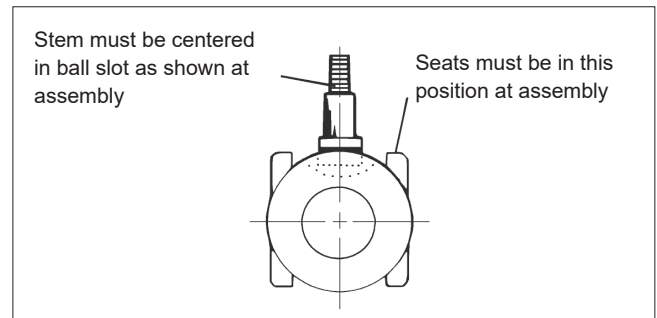
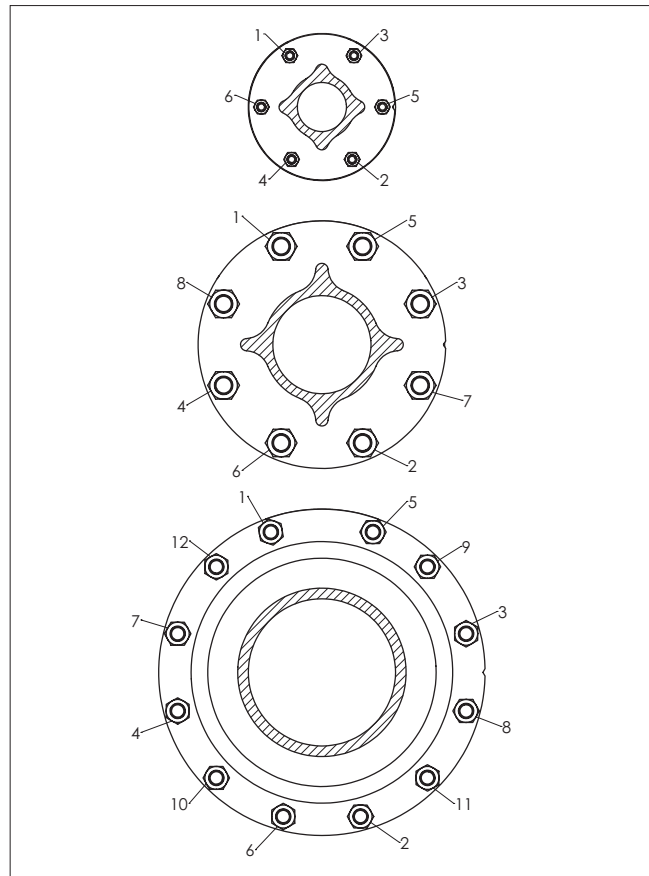

Figure 6. Proper Seat and Ball Orientation
Figure 10. Bolt Tightening Sequence
4. Carefully clean and polish the ball (3) sealing surface: It should be free of all scratches and grooves.
6. Place the body and body cap carefully on the pipeline flange, on a soft surface, taking care not to damage the raised face sealing surface. With the body cap side facing up, slide one valve seat (5) sideways into the body (1) to below the stem bore, and tilt it into place so that the proper surface (see **Figure 6**) will be adjacent to the ball (3), being careful not to cut or scratch the seat.
12. Insert internal grounding spring (71) into hole at the bottom of the stem (4). Insert the ball (3) rotating it onto the stem (4) in the closed position. If necessary, turn the stem blade to align with the ball slot. Make certain that the stem blade is in the middle of the ball slot; i.e. equal distance from the ends of the slot. Rotate the ball if necessary (see **Figure 6**).
13. Gently place the body seal (6) into the machined recess of the body (1).
14. Place the second seat (5) on top of the ball (3) with the proper surface (see **Figure 6**) adjacent to the ball.
15. Place the body cap (2) over body studs (32) being careful to properly orient body cap and body as originally assembled by matching orientation marks made prior to disassembly. Take care not to damage body seal (6) or seat (5) during this operation.
16. Lubricate the threads and face of nuts (33) with NeverSeez® or equivalent. Install nuts (33) on body studs (32) and tighten sequentially as shown in the diagram (**Figure 10**), to the recommended torques as shown in the torque chart (**Table 2**).
**NOTE:** Always install body stud nuts (33) so that the fastener grade markings will be visible following assembly.
6. With the body cap side facing up, slide one valve seat (5) sideways into the body (1) to below the stem bore, and tilt it into place so that the proper surface (see Figure 6) will be adjacent to the ball (3), being careful not to cut or scratch the seat.
16. Place the stud nut (30) on each stud (29) and tighten nuts a few turns alternately so that the compression plate (20) remains parallel with the body bonnet. Do not fully torque down stud nuts (30) at this time.
17. Insert the *Emission-Pak* subassembly into the body, being careful not to damage the *Emission-Pak* housing seals. A lubricant, compatible with the flow media, **MUST** be applied to the stud (102) threads and the face of the nut (111).
19. Once metal to metal contact has been achieved, tighten the nuts (111) to the torque values in (**Table 5**). Apply the torque evenly in a crisscross pattern.
20. Place the valve in a vertical position, insert end up, on a clean soft surface such as a folded rag or a piece of cardboard. If the valve has grounded option, insert the bottom grounding spring (71) into the hole at the bottom of the stem (4). Insert the ball (3) rotating it onto the stem (4) in the closed position. If necessary, turn the stem blade to align with the ball slot. Make certain that the stem blade is in the middle of the ball slot; i.e. equal distance from the ends of the slot. Rotate the ball if necessary (see **Figure 6**).
23. Place the body cap (2) over body studs (32) being careful to properly orient body cap and body as originally assembled by matching orientation marks made prior to disassembly. Take care not to damage body seal (6) or seat (5) during this operation.
24. Lubricate the threads and face of nuts (33) with NeverSeez® or equivalent. Install nuts (33) on body studs (32) and tighten sequentially as shown in the diagram (**Figure 10**), to the recommended torques as shown in the torque chart (**Table 2**).
25. While pulling the stem (4) outward, tighten the hex nuts (30) to the torque values in (**Table 3**). Apply the torque evenly, alternating between the two nuts so that the compression plate (20) remain parallel with the *Emission-Pak* housing bonnet.
27. Replace top grounding spring (70) and retaining ring (72) to stem (4).